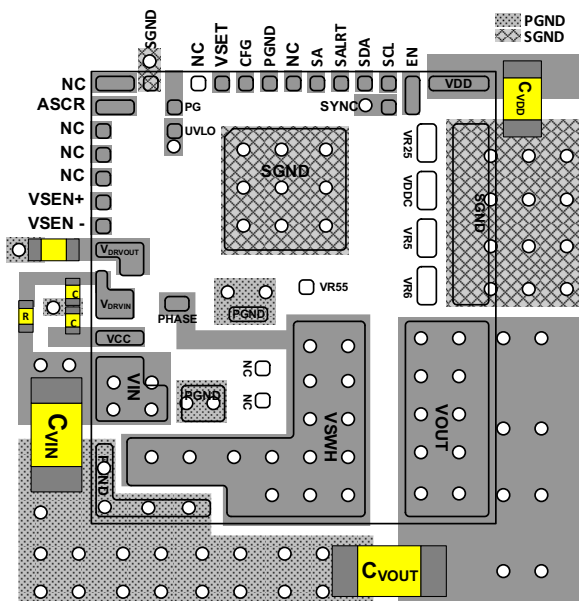

Figure 27. Recommended Layout - Top PCB Layer
- For $V_{DD} > 6V$, the recommended PCB layout is shown in Figure 27. Leave V25, VDDC, VR5, and VR6 as “No Connect”.